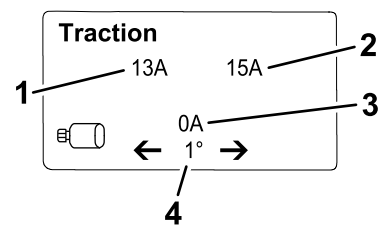

Figure 22
- **Traction information screen (Figure 22):** shows the current steering angle and the amperage allotted to each traction motor.